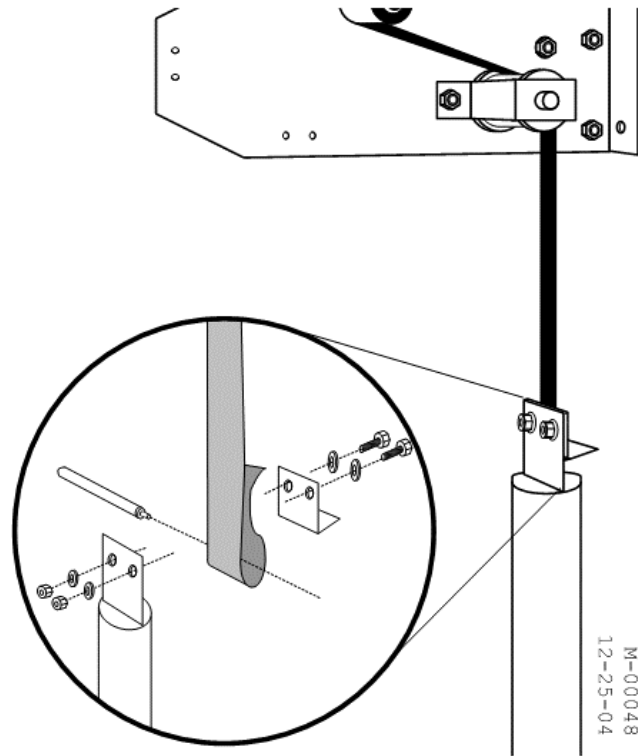

Figure 2-22: Attach Counterweight
6. Attach the belt to the counterweight with the hardware provided. See Figure 2-22.